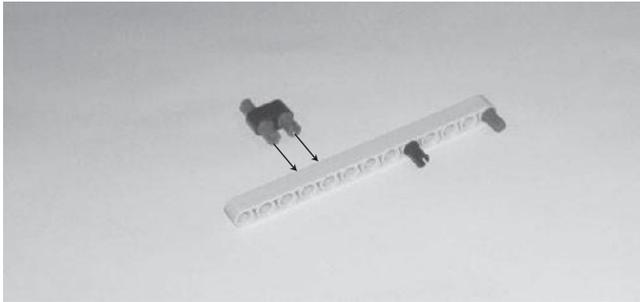

Figure 10.10
Step 3: Take another 13M straight beam and connect a connector peg with friction and cross axle to it and then take another 2M straight beam and connect a connector peg with friction and cross axle and a connector peg with friction 3M to it, as shown in Figure 10.10.